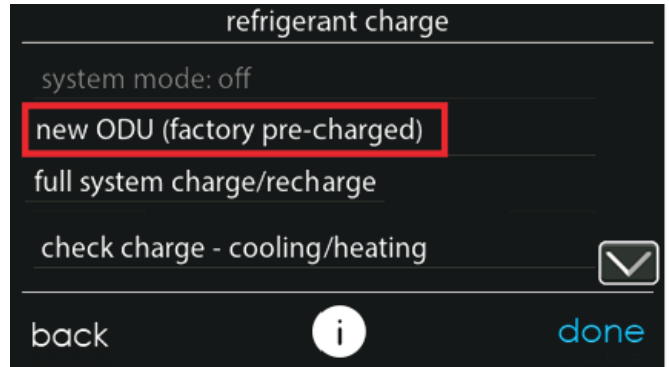

Fig. 15 – Refrigerant Charge Mode Selection
- For new installations, select "new ODU (factory pre-charged)" from the refrigerant charge screen to begin charging the system (Fig. 15). For applications where there is no charge in the ODU, select "full system charge/recharge".